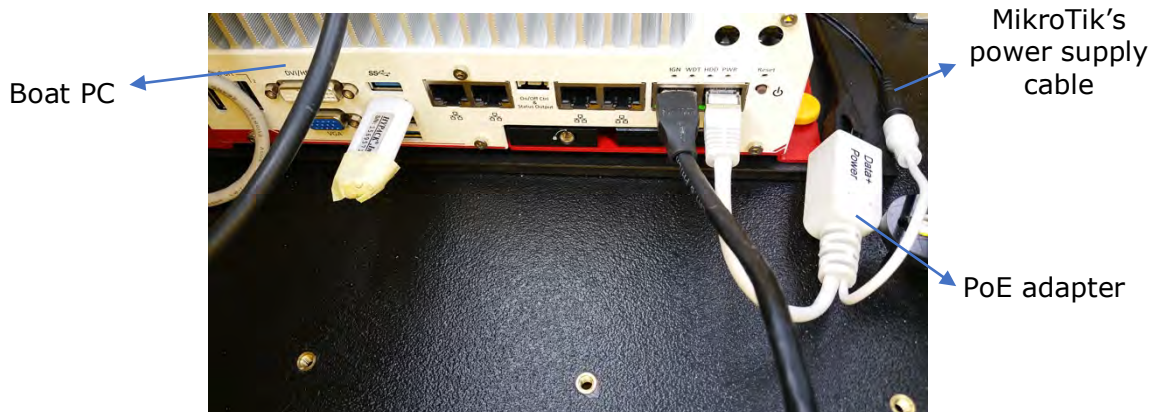

Figure 11: Connection between the boat PC and the MikroTik (wifi bridge)
5. Connect the boat PC to the boat side Wifi bridge (MikroTik) using the ethernet cable of the gray PoE adapter (Figure 11). Make sure that the MikroTik's power supply is also connected to the PoE adapter!